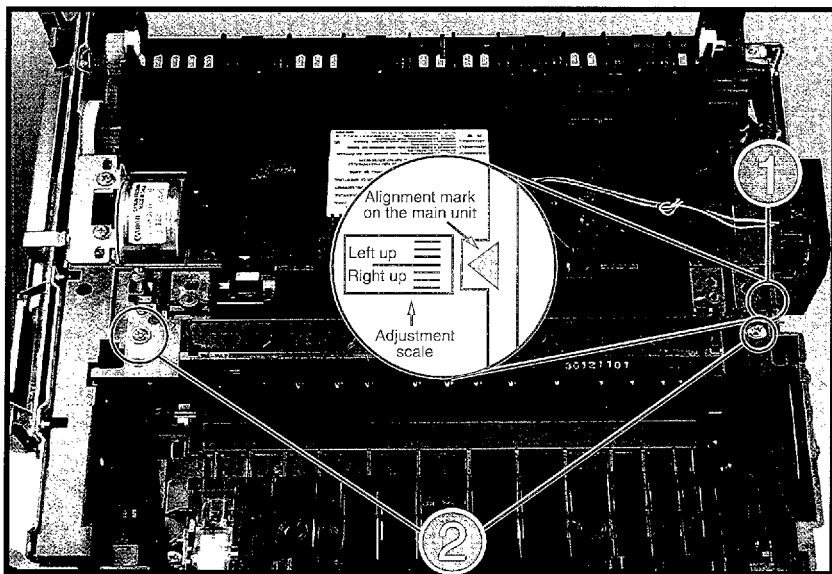

Figure 6-26 Removing the Beam-to-Drum Mirror
2. Note where the mark on the printer chassis aligns with the graduated scale on the mirror (Figure 6-26, callout 1).
3. Remove the (2) self-tapping screws (Figure 6-26, callout 2).